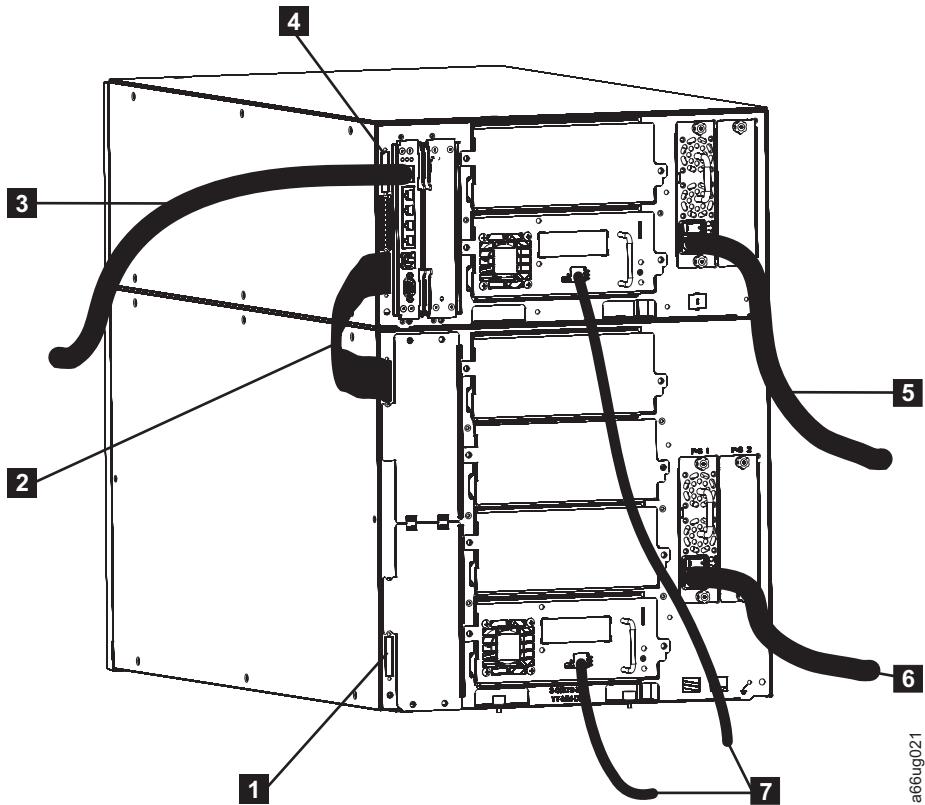

Figure 3-2. Cabling on a 14U library
- Two module communication terminators (**1** and **4** in Figure 3-2)
- Module-to-module communication cable (**2** in Figure 3-2)
- Power cord in each power supply (**5** and **6** in Figure 3-2) then into your power source
4. Turn the switch on all power supplies in your library to the ON (I) position.